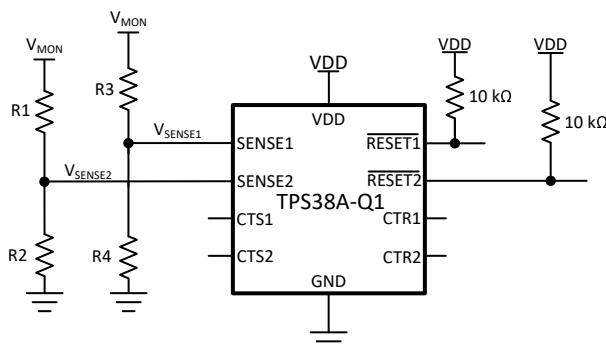

図 9-1. Adjustable Voltage Threshold with External Resistor Dividers
For example, consider a 12 V rail being monitored V_{MON} for undervoltage (UV) using channel 1 of the TPS38A010122DSKRQ1 variant. Using 式 12 and shown in 図 9-1, R_1 is the top resistor of the resistor divider that is between V_{MON} and V_{SENSE2} , R_2 is the bottom resistor that is between V_{SENSE2} and GND, V_{MON} is the voltage rail that is being monitored and V_{SENSE2} is the input threshold voltage. The monitored UV threshold, denoted as V_{MON-} , where the device will assert a reset signal occurs when $V_{SENSE2} = V_{IT-(UV)}$ or, for this example, $V_{MON-} = 10.8V$ which is 90% from 12 V. Using 式 12 and assuming $R_2 = 10k\Omega$, R_1 can be calculated shown in 式 13 where I_{R1} is represented in 式 14: